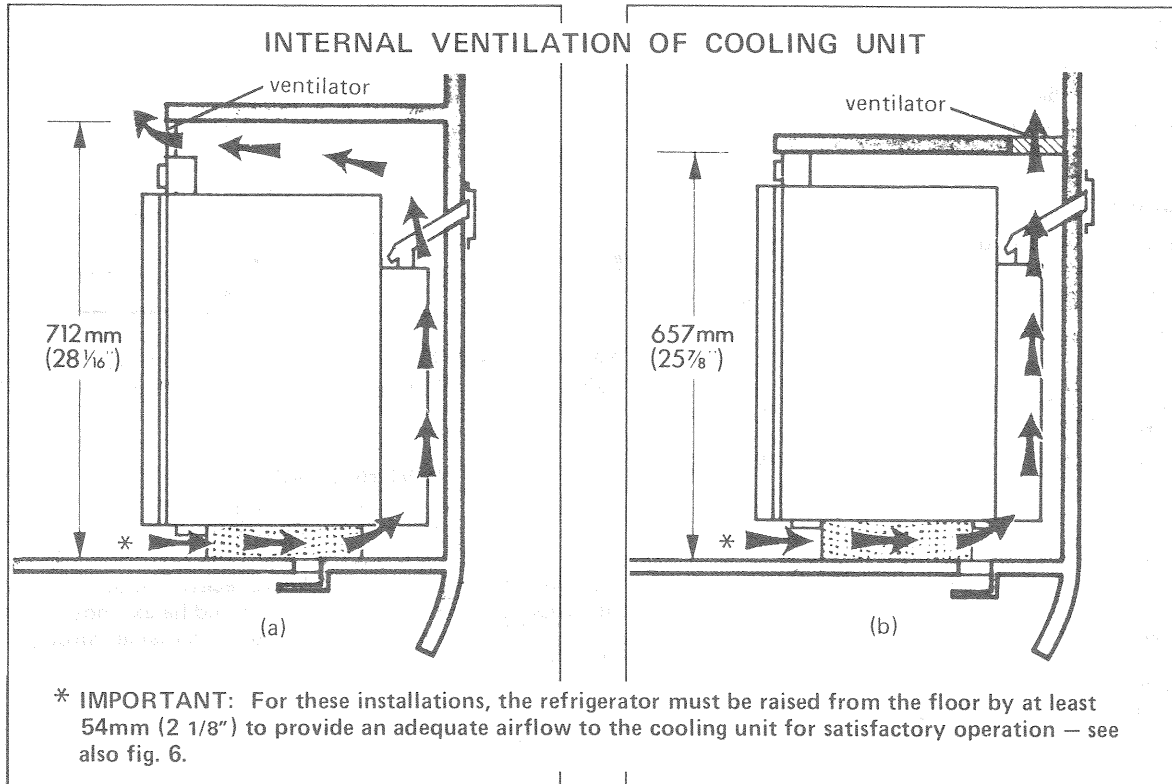

FIG. 4
- a) An upper, internal ventilator (part No. 2902311-01 for fitting at the top when the refrigerator is installed as illustrated in fig. 4 with internal ventilation of the cooling unit.
The first method (figs. 4 and 6) is where the flue is vented directly to the outside, but ventilation of the cooling unit at the rear is provided by air passing to the unit from below the refrigerator, and emerging into the caravan (slightly warm) through a ventilator fitted at the top front (fig. 4a), or over the top rear (fig. 4b).